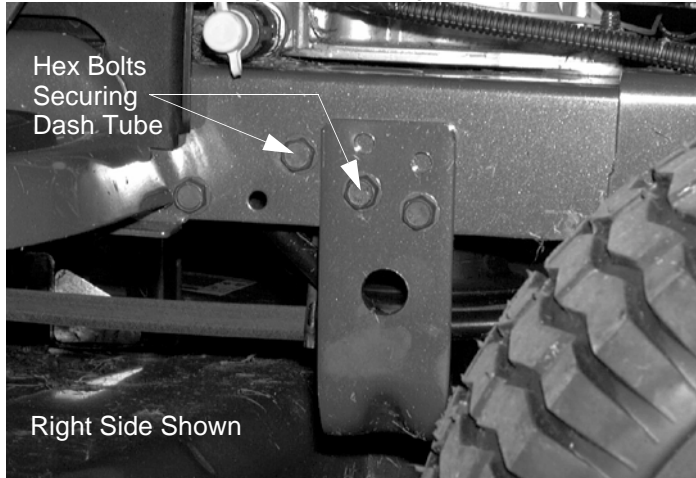

Figure 3
- Working on the left side of the tractor, remove and discard the hex flange lock nuts (not shown) from the **hex bolts** which attach the dash tube to the frame. See Figure 3.
- Remove one bolt, leaving the other in the frame and dash tube to maintain alignment. See Figure 3.